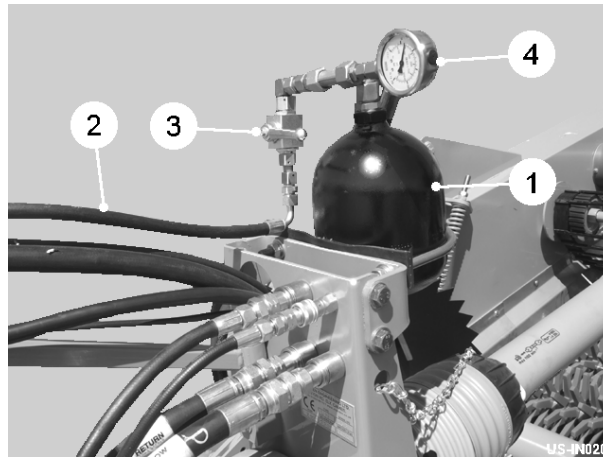

Fig 2
The hydraulically damped drawbar is fitted to protect the machine when operating in soil conditions where buried obstructions may be encountered. The system consists of a hydraulic cylinder mounted within the drawbar pressurised by an accumulator (item 1, fig 2). The design allows the drawbar to extend by 200mm. After 25mm of movement a proximity sensor triggers the control system which simultaneously lifts the digger on full flow, and stops the boulder box stars, vari-flow and cross conveyor webs. After activation the machine elements have to be restarted using the control box. The drawbar must always be pressurised before commencing work.
To set the accumulator pressure, connect the hose (item 2, fig 2) to the tractor spool valve and open the accumulator valve (item 3, fig 2). Open the tractor spool valve while closely watching the pressure gauge (item 4, fig 2). When the pressure reaches 65 bar immediately close the spool valve and then close the accumulator valve. If necessary, reduce the pressure slightly using the accumulator valve. The drawbar is now pressurised and ready for operation. If in work, due to differing soil conditions, the initial setting of 65 bar is found to be too low and the drawbar is extending in normal work, increase the pressure setting by increments of 10 bar until the drawbar is static. **DO NOT EXCEED 120 BAR.** If the drawbar is still not functioning correctly when the maximum pressure is reached, consult your Standen dealer for further advice.